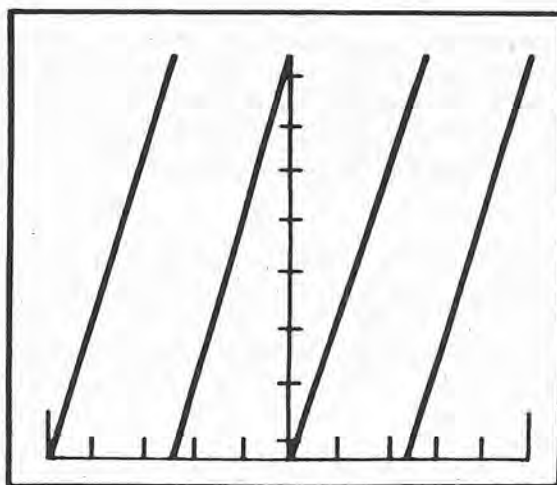

Figure 2-4. Test Pattern CRT Display
**SHIFT/1** — Pressing the SHIFT and then the 1 pushbuttons causes the CRT to temporarily display a known test pattern on the selected trace display. The test pattern is a series of four ramp waveforms. Refer to Figure 2-4 for the ramp waveform.